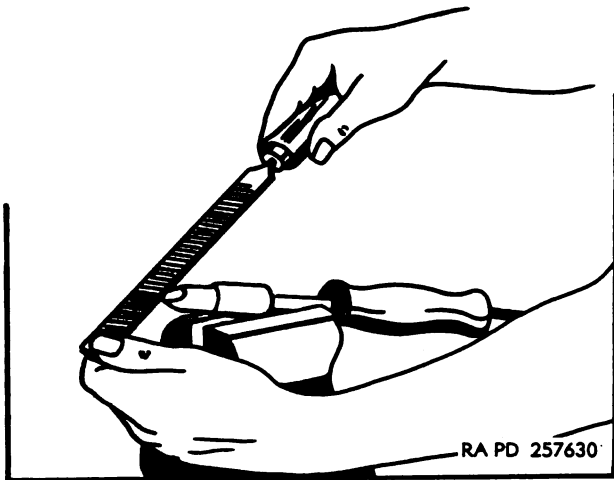

Figure 160. Filing tip of iron.
- (1) Clamp the iron in a vise and file the tip faces bright while the iron is cold (fig. 160).
- (2) Remove the iron from the vise. Plug electrical cord into outlet and as the iron heats up rub flux core solder over the tip faces every 15 or 20 seconds. At first, the iron will not be hot enough to melt the solder.
- (3) As soon as the temperature has risen